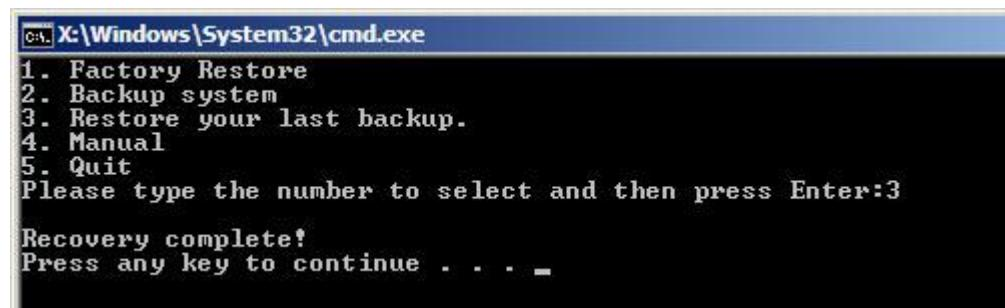

Figure B-40: Restore System Backup Complete Window
Step 3: The screen shown in **Figure B-40** appears when backup recovery is complete.